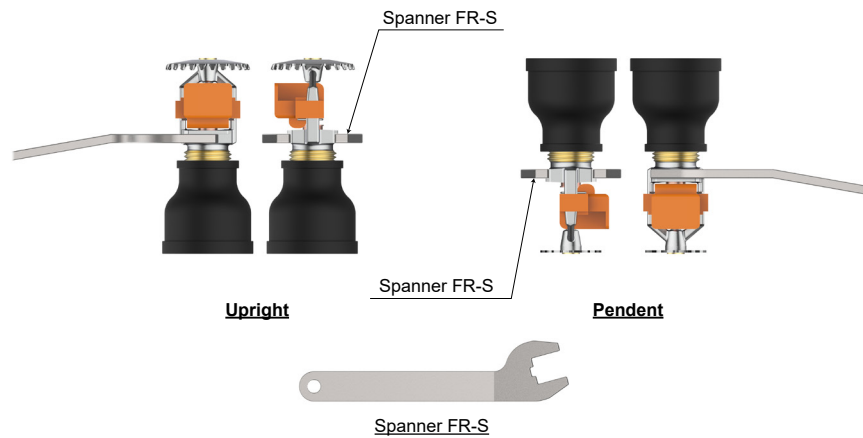

Figure 5: Installation (Spanner)
Step 3: Using the Spanner FR-S, tighten the sprinkler into the sprinkler fitting with a torque of 7 to 14 ft-lbs (9.5 to 19.0 N·m). (Ref. Figure 5)
Step 3: Using the Socket FR-H (or FR-H II) or Spanner FR-S, tighten the sprinkler into the sprinkler fitting with a torque of 7 to 14 ft-lbs (9.5 to 19.0 N·m). (Ref. Figures 5 and 7)